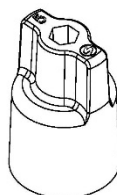

Figure 1: Wrench for Hexagon Nut
- The wrench for the hexagon nut (Figure 1) is attached to the buzzer switch.